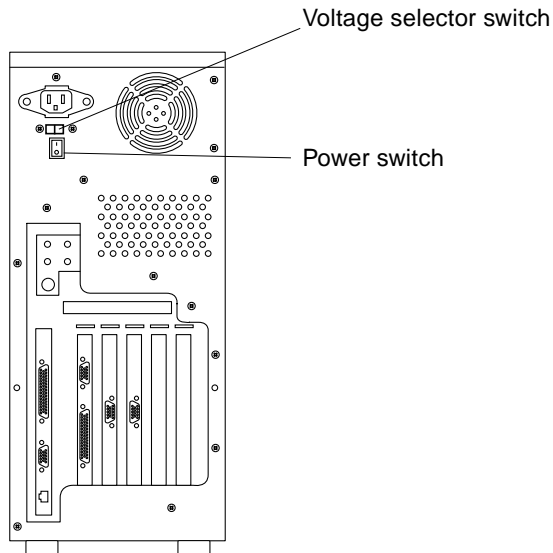

FIGURE 2-4 Ultra 10 System Power Switch
**3. Set the system power switch to the off position (FIGURE 2-4).**